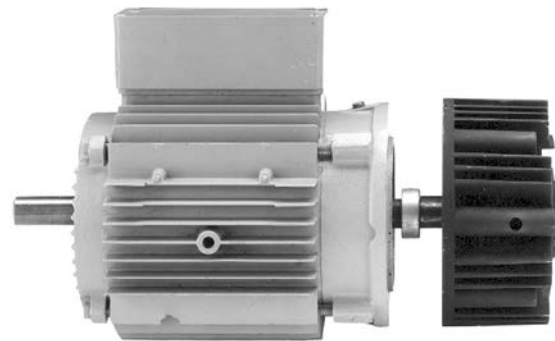

Figure 1
- B. A set collar is provided in the EM-210 mounting accessory to prevent the key from sliding out. Slide the set collar against the motor bearing and tighten the set screw securely. (See Figure 1)